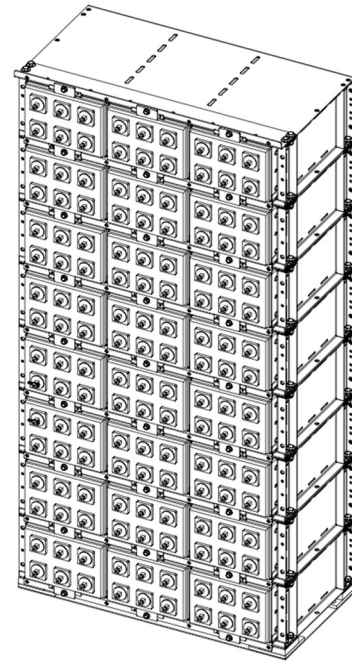

FIGURE 6a
3. Install cell modules and retainer plates as described until the whole system is full. See Figure 6a.